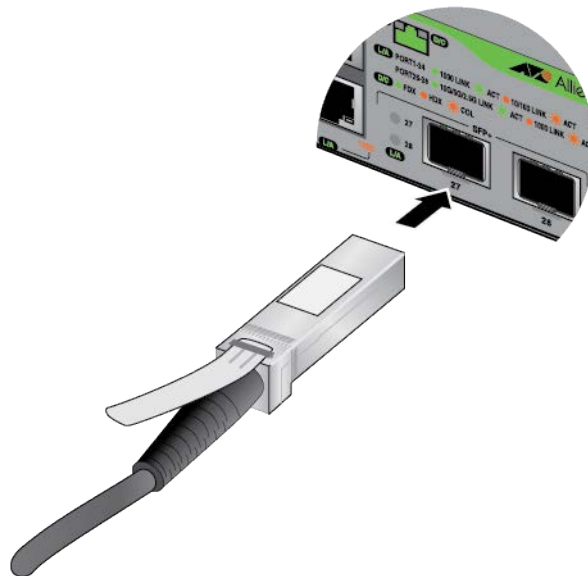

Figure 79. Installing an SP10TW Cable
3. Position the transceiver with the Allied Telesis label facing up. Refer to Figure 79.